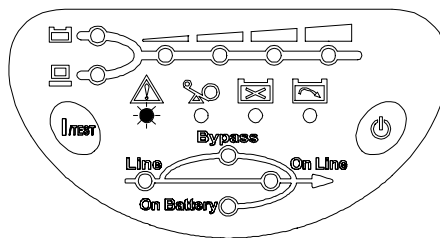

Fig 3-2 Site Fault
- After the UPS is plugged in , check the site wiring fault LED (fault LED in “**STANDBY mode**”). If the UPS is plugged into an improper wired AC power outlet, this LED flashes. Shown as fig 3-2.